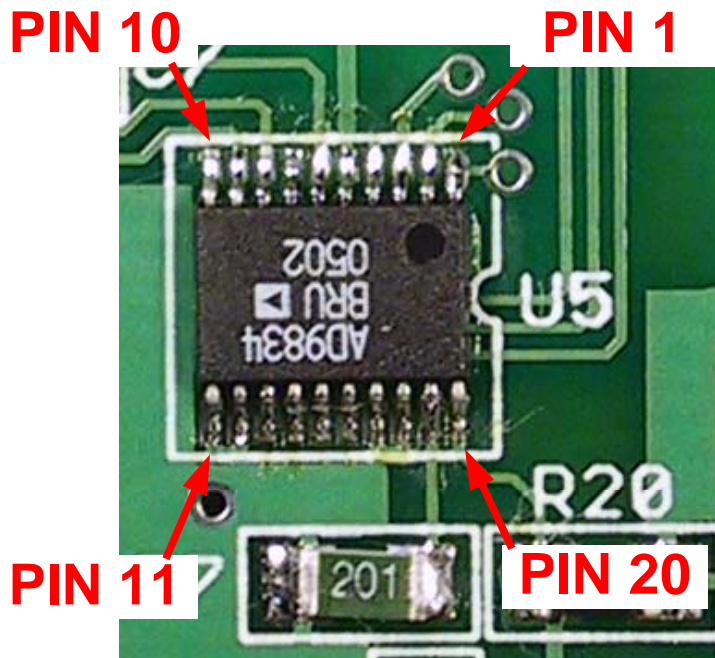

Figure 18. U5 Installation
- ☐ Remove U5, AD9834BRU, from its protective cover, being careful not to bend the leads. If they are inadvertently bent, use a hobby knife or other fine-point tool to straighten them. This is the most challenging component to install, and it was saved for last to give you experience with the other ICs. Refer to **Figure 18**. If you have liquid flux, apply a coating to the U5 pads.
- ☐ Inspect your work very carefully. If there is a solder bridge, clear it using the solder wick. Apply a small amount of solder to each pin and reinspect. Allow the chip to cool before attempting to correct bridges. Make sure the pins are soldered to the pads. Looks can be deceiving. If in doubt, reheat the joint. The soldering should resemble **Figure 18** when you are done. There is a continuous bead of solder from the pin down to the pad. Liquid flux was used here to permit the free flow of solder. Use alcohol or acetone to remove the excess flux after soldering.